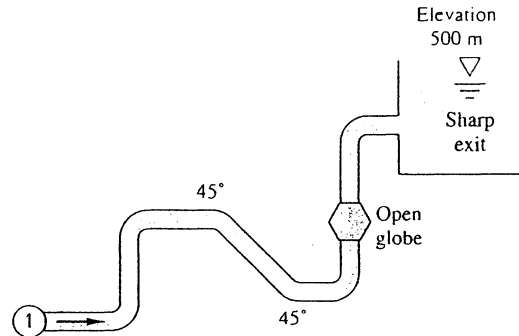

Fig. P6.105
**6.105** The system in Fig. P6.105 consists of 1200 m of 5 cm cast-iron pipe, two 45° and four 90° flanged long-radius elbows, a fully open flanged globe valve, and a sharp exit into a reservoir. If the elevation at point 1 is 400 m, what gage pressure is required at point 1 to deliver 0.005 m3/s of water at 20°C into the reservoir?